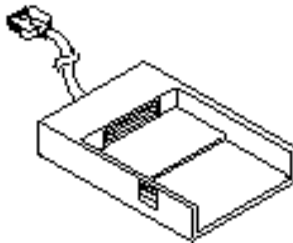

Figure 1-5 External Floppy Disk Drive Adapter
- External floppy disk drive adapter (located in the accessories box). (Figure 1-5.)